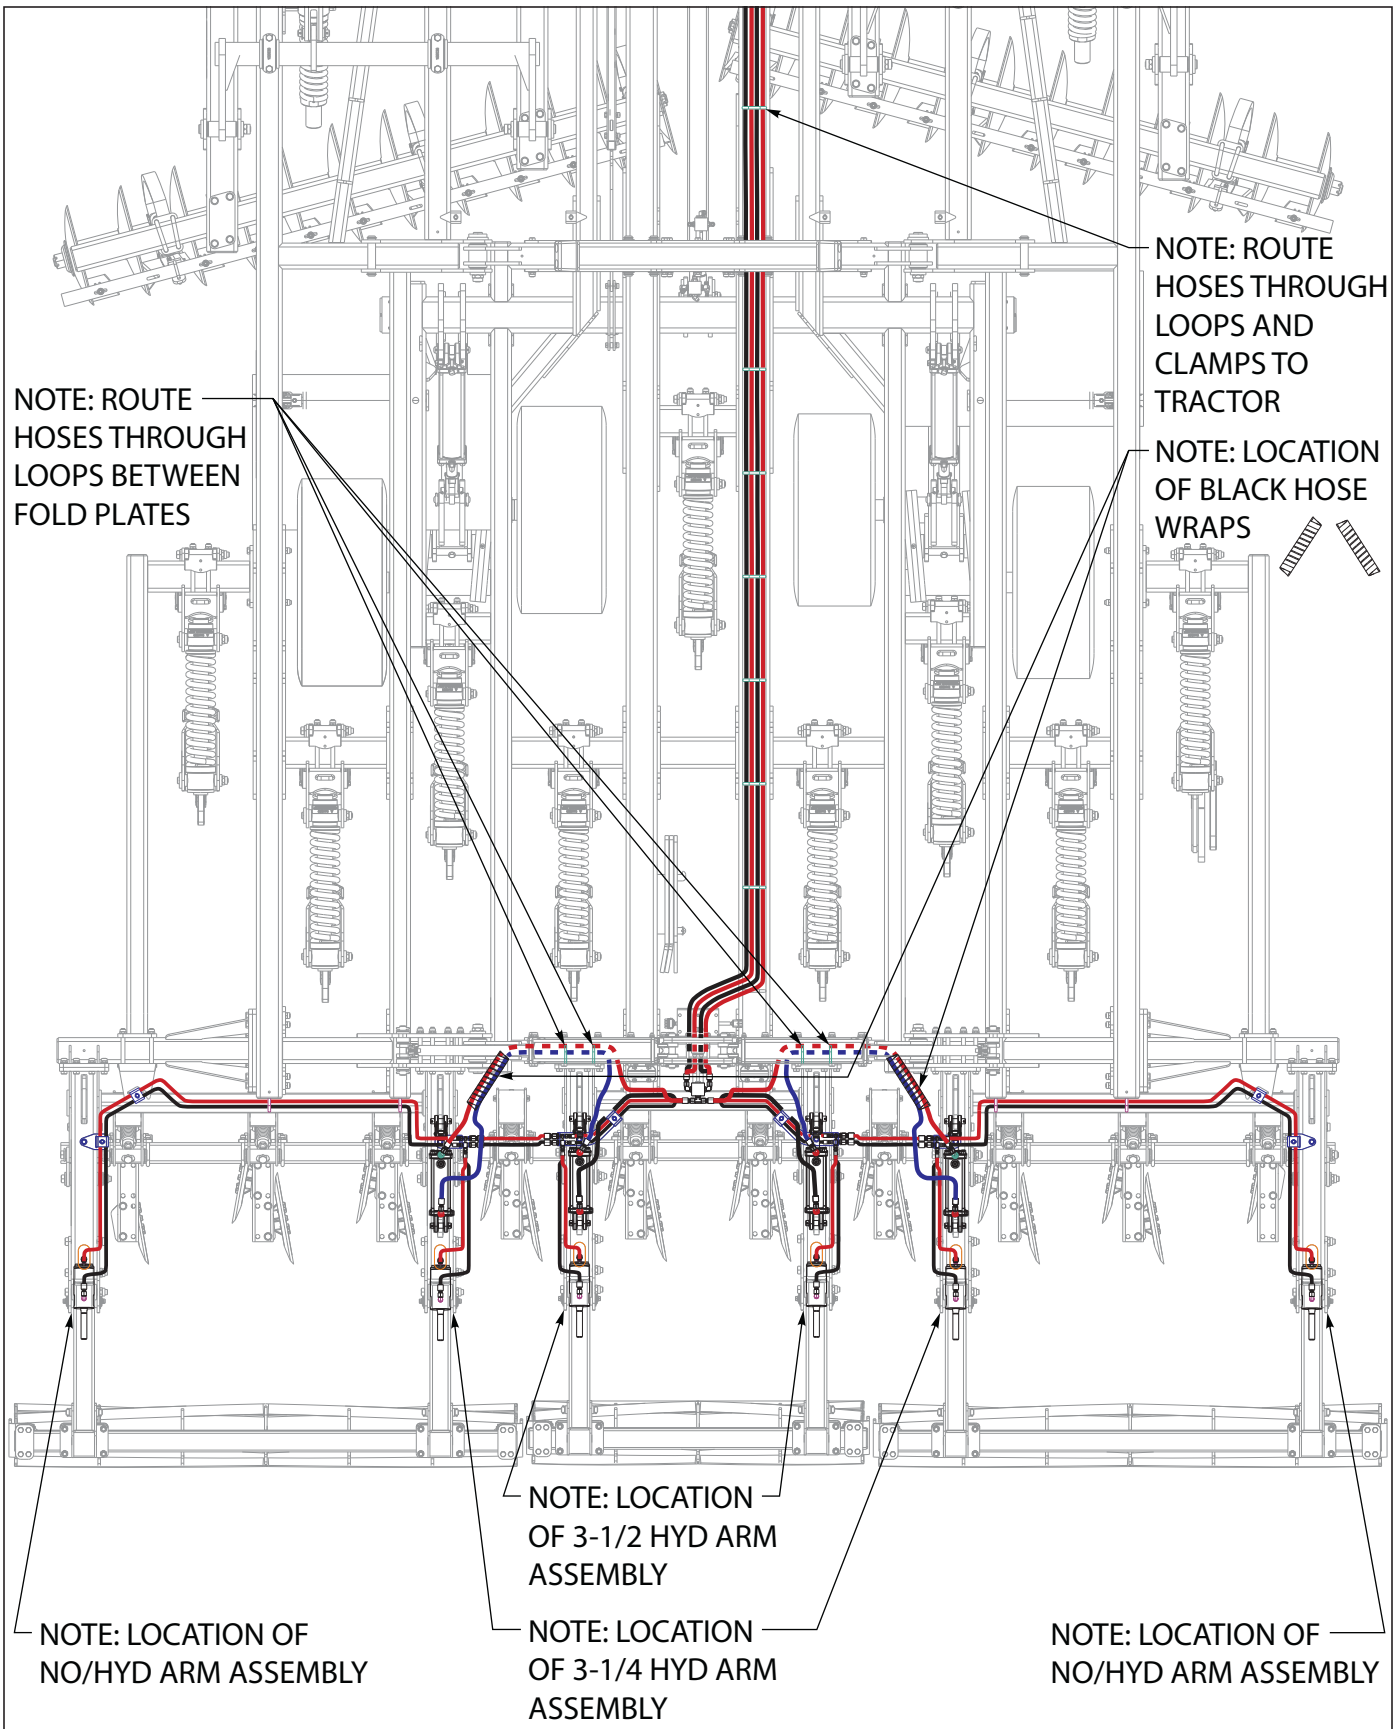
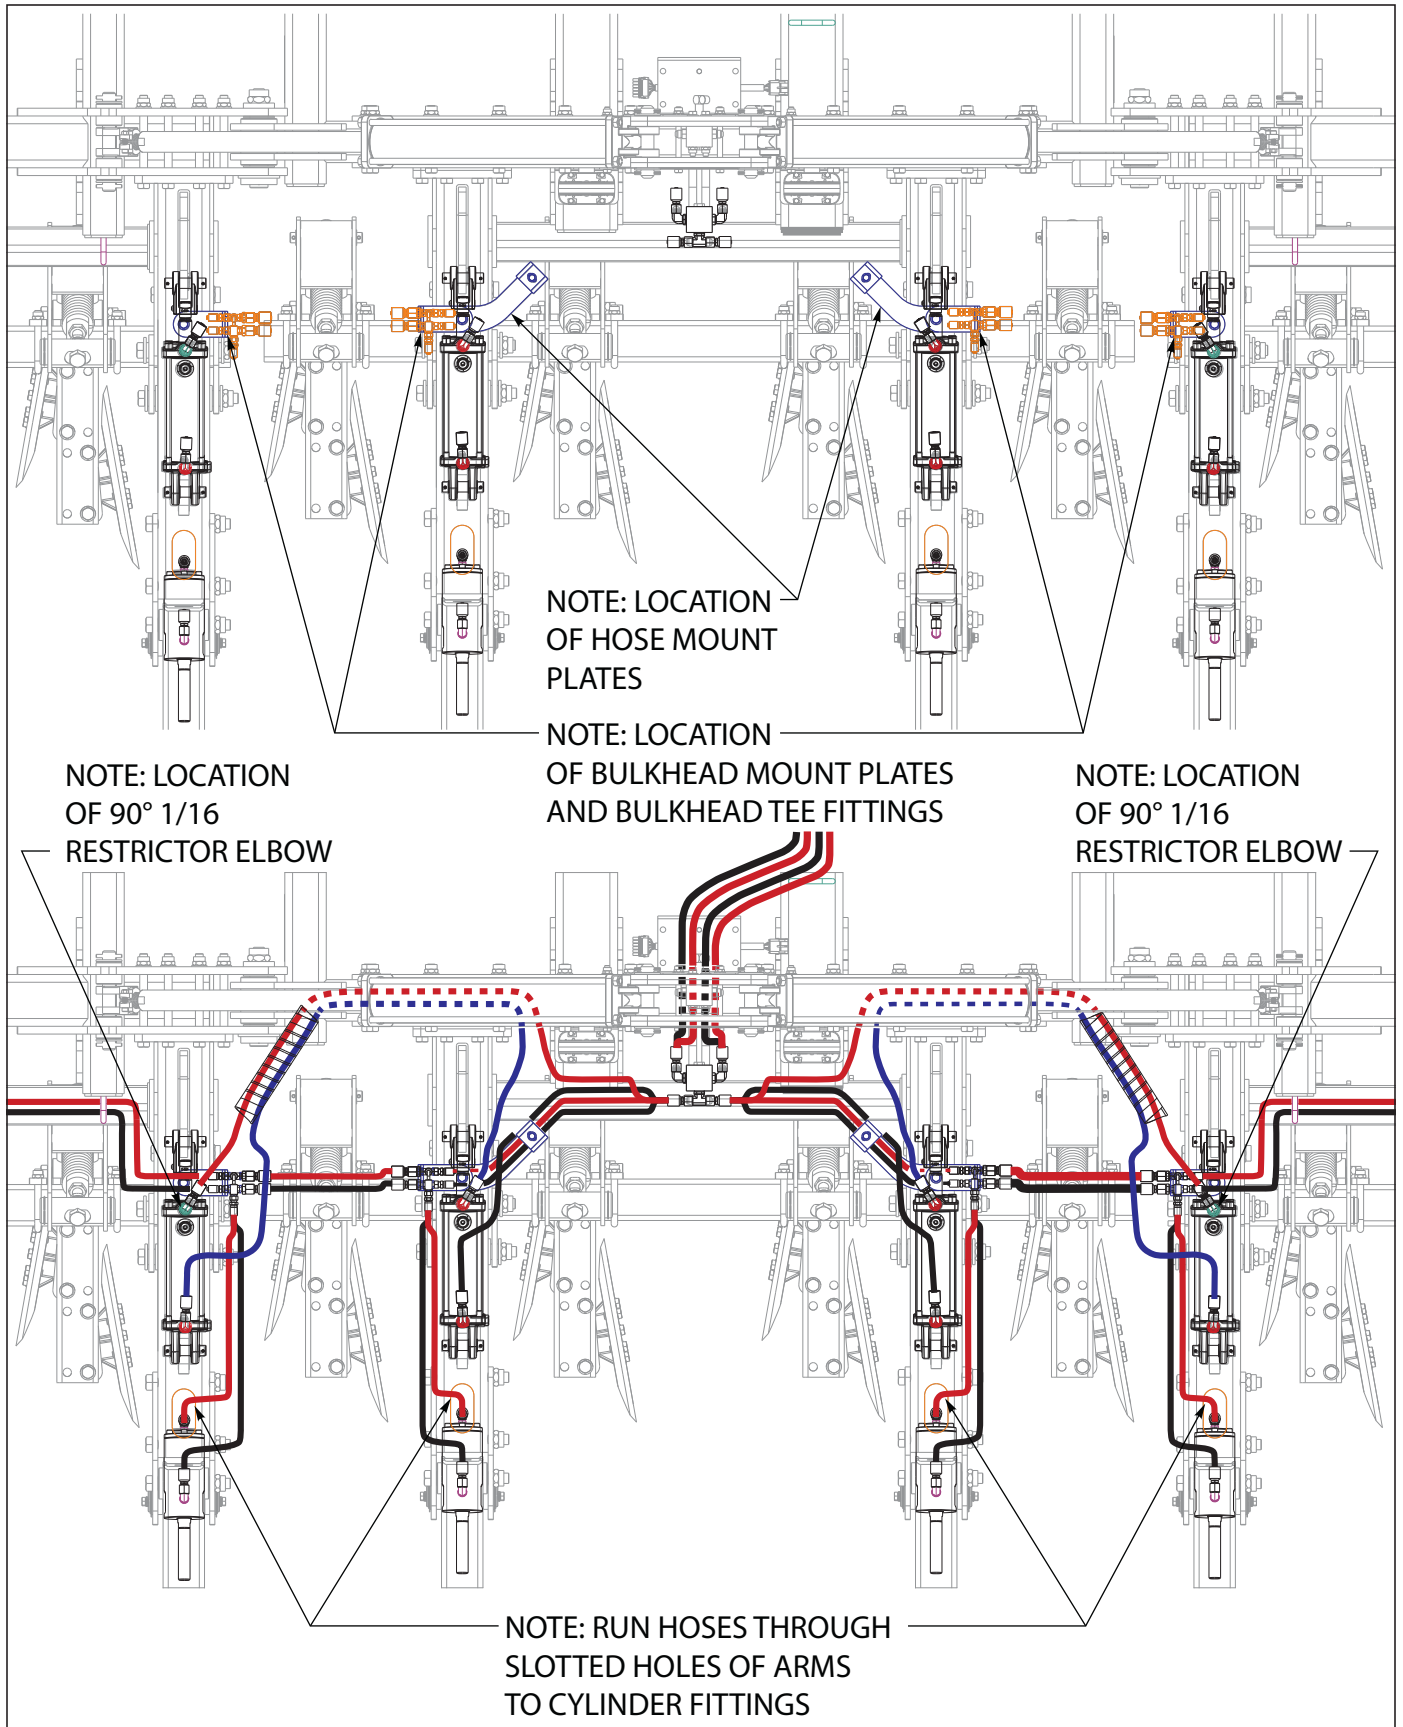

Figure 3-52: Disc Lev/Hyd RL Layout 1 2411AFG-07-09
Figure 3-53: Disc Lev/Hyd RL Layout 2 2411AFG-07-09
Note locations of hose clamps, hose mount plates and bulkhead mount plates and bulkhead tees *See Figure 3-52 and See Figure 3-53.*
18. **See Figures 3-51 through See Figures 3-53** for proper hydraulic installation.